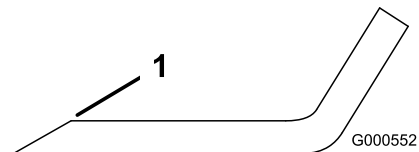

Figure 95
1. Use a file to sharpen the cutting edge at both ends of the blade (Figure 95).
Note: If the blade is not balanced, file some metal off the end of the sail area only (Figure 95).